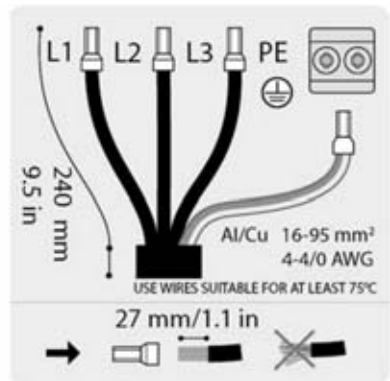

Figure 2.17 AC cable wire strip
On the AC cable, strip insulation on all four wires. The protective conductor (PE) must be longer than the grid wires. See figure 2.17.